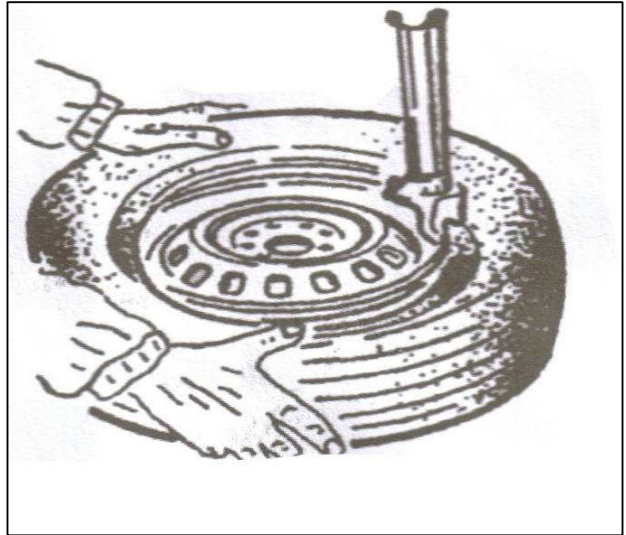

FIG 22
4.2.3 If there is tube, place it in the tire and plug the core. And assemble the lip according to the above mentioned step (FIG22). In the process of clamping the rim, do not reach your hands in between the rim and the claw to avoid the damage to the personnel.
When inflating the tire, please be carefully and series obey the operation process. Check the air route to see if the air connection is OK. This machine is equipped with an inflation gauge for monitoring the inflation of the tire and the inflation pressure ( FIG22) .